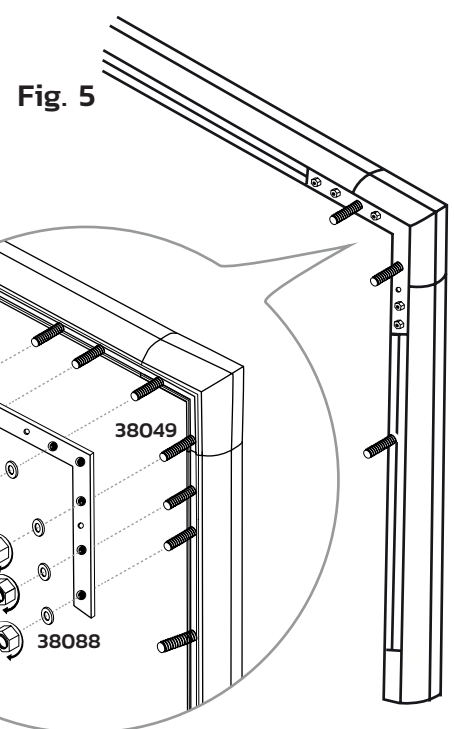

Fig. 5
STEP 5 - Attach Crossbar to Uprights (Fig. 5)
STEP 6 - Fixing Crossbar to Uprights (Fig. 5)